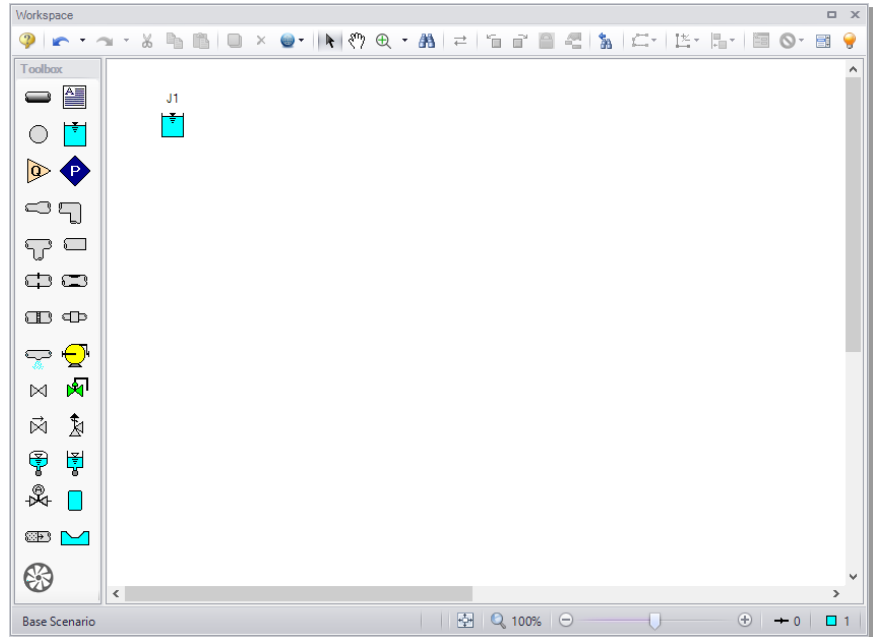

Figure 2.4 Valve closure model with the first junction placed
- **To start, drag a Reservoir junction from the Toolbox** and drop it on the Workspace. Figure 2.4 shows the Workspace with one reservoir.